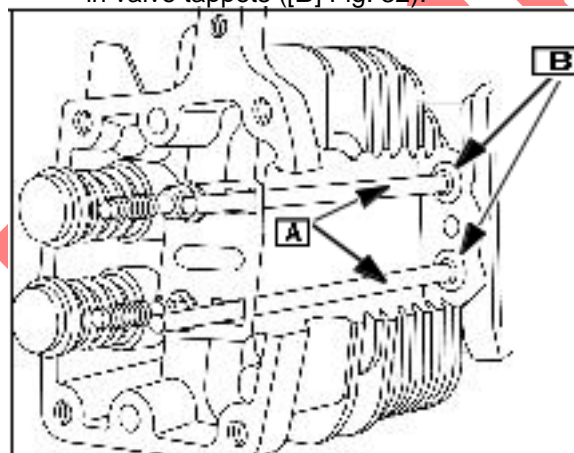

Fig. 32
Install push rods (A) through push rod guide. Make sure push rods are seated in valve tappets ([B] Fig. 32).